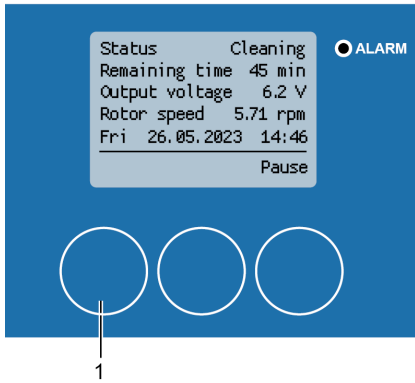

Fig. 166: Abort cleaning process
1. Press **[Abort]** (Fig. 166/1) to abort the cleaning process.